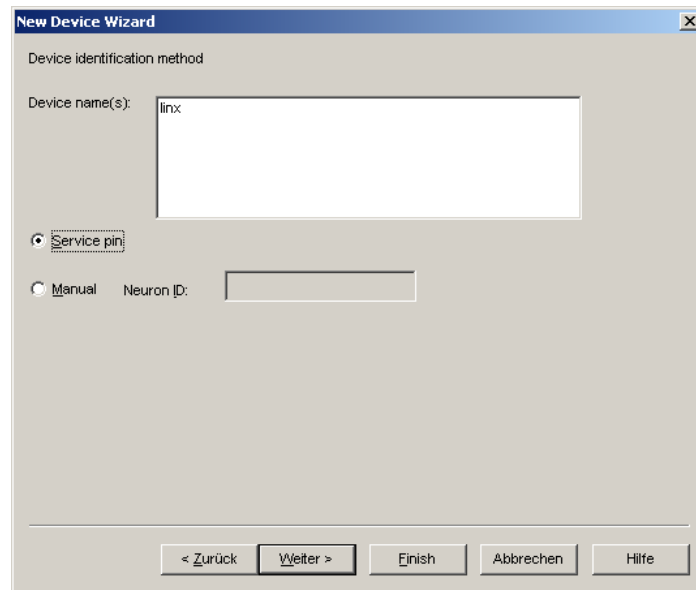

Figure 92: Use Service Pin.
6. Check Service Pin as the device identification method as shown in Figure 92 and click **Next**.